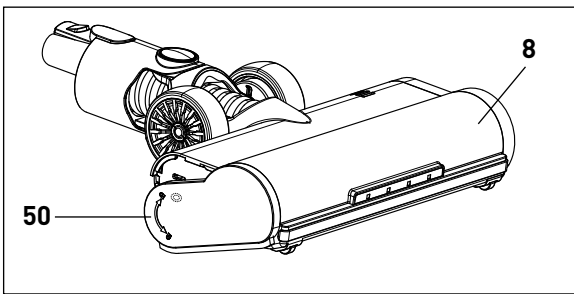

Figure 23
Fit the end cover over the spindle (51) of the brush roller with the rear of the end cover lower than the base of the power brush (figure 23). Rotate end cover upward to the locked position. NOTE: If the brush roller is inserted incorrectly, the end cover will not close. Do not force it, rotate the brush until it is seated.